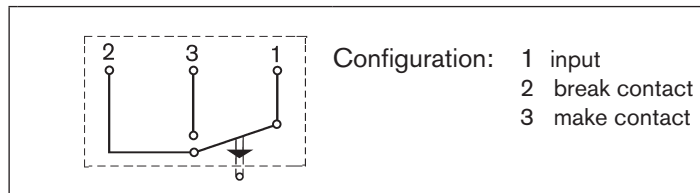

Fig. 22: Electrical circuit
- Loosen the screw in the cap ④ and remove the contact insert ②.
- Guide the cable through the union nut ⑧.
- Make the connection as shown for the circuit (see "Fig. 22: Electrical circuit").